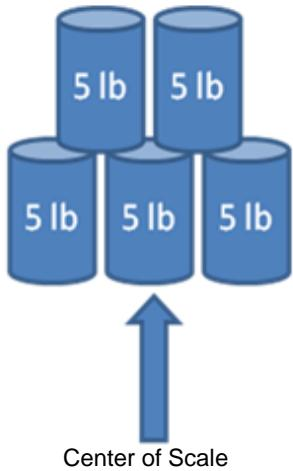

Figure 4-2 Weight Calibration Configuration for Pounds
- a. Place 25 lb weights on the scanner as shown in Figure 4-2; three 5 lb weights centered on the center of the scale, and two 5 lb weights centered on top.